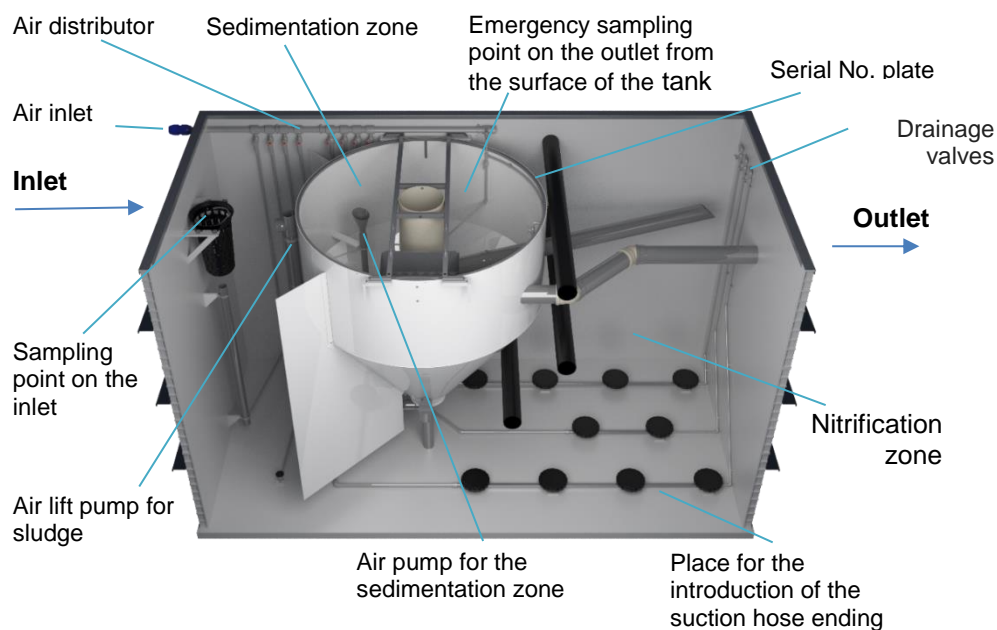

Fig. 29: WWTP OPTIMA in PP container
If requested, the WWTP technology can be housed in the tank of rectangular shape. The material used for the tank can be polypropylene (PP), stainless steel (SL) or concrete (B). The layout of individual parts and technological elements of WWTP is depicted in Figures 29 and 32.